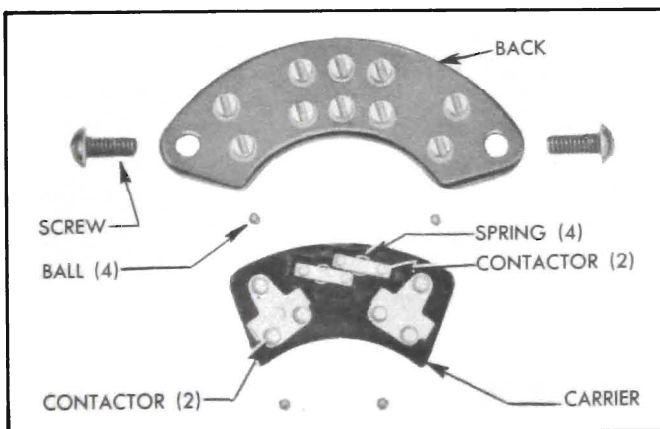

Figure 10-68—Signal Switch Parts
ing harness, carrier with contactors, and the four small steel balls. See figure 10-68.
6. When switch parts are being installed, use a small amount of petroleum jelly to hold a steel ball in each of the four bearing grooves in carrier and place carrier in switch housing. Install springs and contactors in carrier as shown in figure 10-68, then install switch back with two screws.